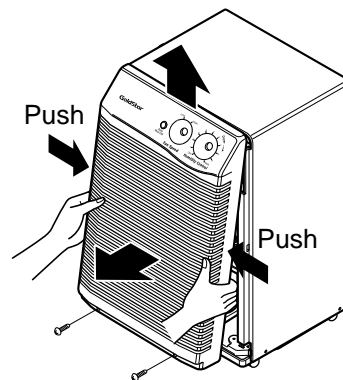

Figure 6
2. By pushing the both sides of front grille, pull the front grille forward and upward. (See Figure 6)